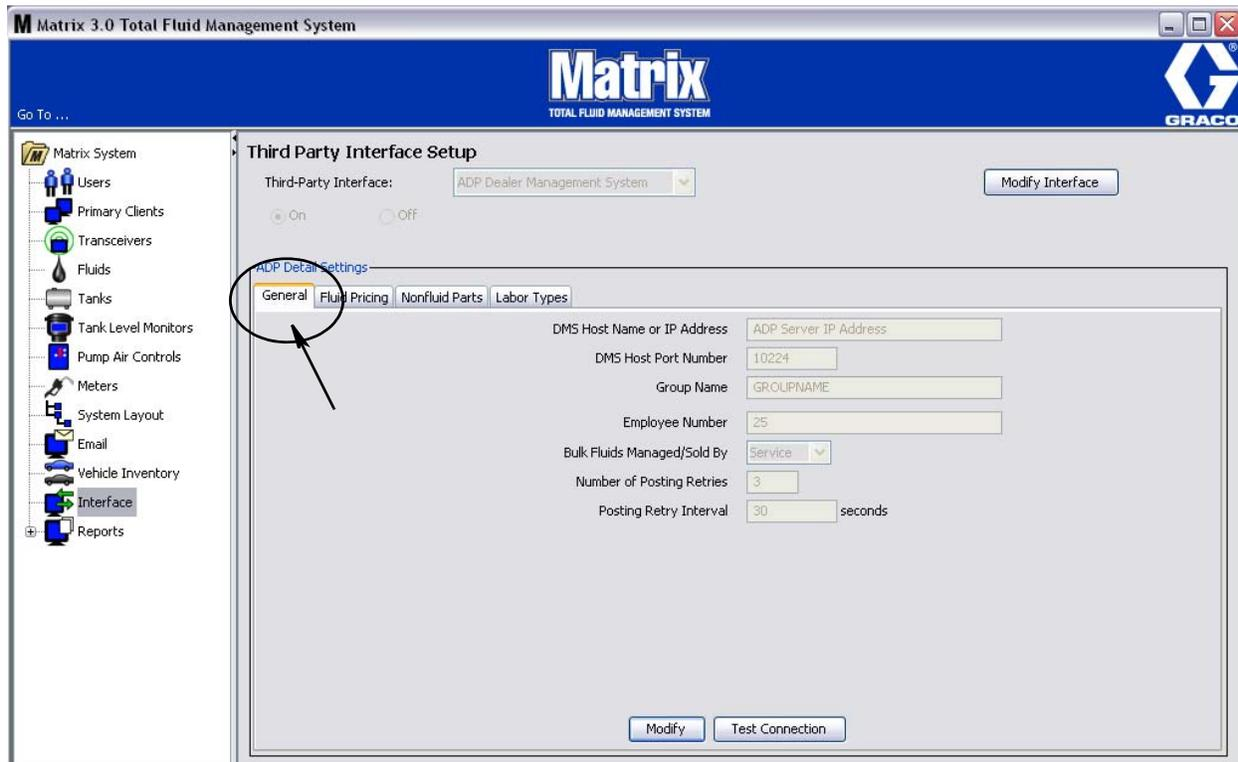
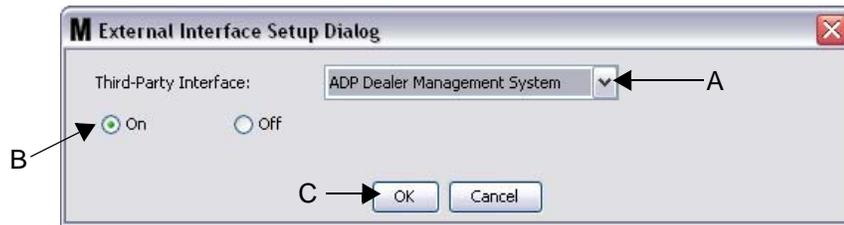

Fig. 178 CDK Global General Setup Screen
FIG. 179 External Interface Setup Dialog
The CDK Global General Setup screen (FIG. 178) contains all the setup configuration information necessary for Matrix to apply the appropriate fluid charge to an CDK Global Repair Order (RO).
1. Click the **Modify Interface** button (FIG. 178). The External Interface Setup Dialog box shown in FIG. 179 displays. This dialog box is used to specify the Third Party Interface you are using.
2. From the drop down menu (A - FIG. 179) select CDK Global DEALER MANAGEMENT SYSTEM, since you are setting up the CDK Global Interface.
3. Click “ON” (B - FIG. 179) *Third Party Interface Enabled* - Tells Matrix whether to use the third party interface by selecting either “yes” or “no”. The default setting is “no”. This element globally turns on or turns off the interface..
4. Click the OK button (C) to close the screen and confirm your selection.
1. Click the **Modify** button (FIG. 178, page 131) to display the CDK Global DMS Connection Setup dialog box used to define the DMS.